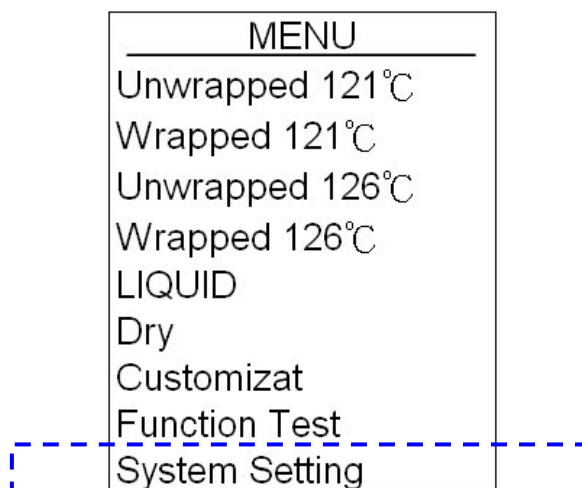
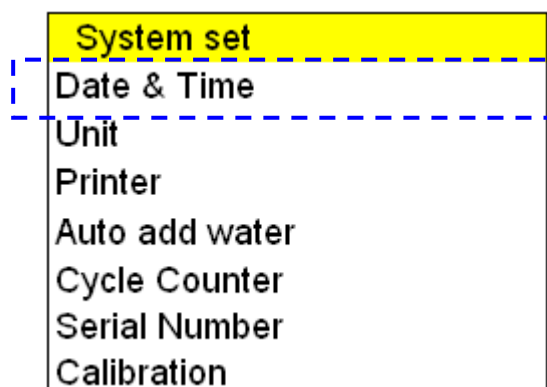

Figure 109
Figure 110
- A. Press  or  button to select System Setting program (Figure 109), and then press  button to select Date & Time setting, as shown in Figure 110.